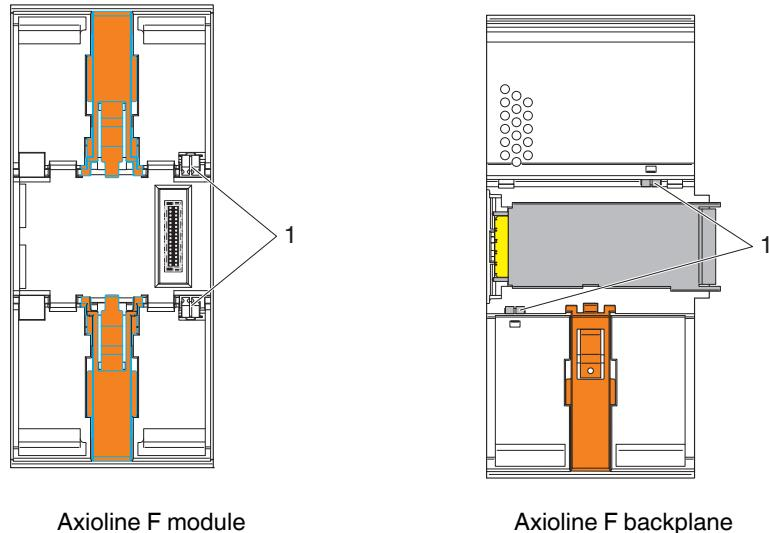

Figure 9-1 FE spring (1)
- 1 The AxioLine F modules (controller, bus coupler, backplanes, I/O modules) have at least one FE spring (metal clip, 1 in Figure 9-1) at the bottom. This spring establishes an electrical connection to the grounded DIN rail when the module is mounted.